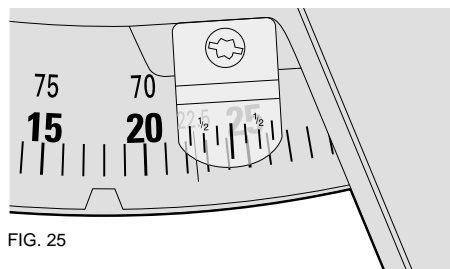

FIG. 25
3. To set the additional 1/4 degree, move the first mark on the right to the right until the 1/4 degree vernier mark aligns with the CLOSEST degree mark on the miter scale. In our example, the closest degree mark on the miter scale happens to be 25 degrees. Figure 25 shows a setting of 24-1/4 degrees right miter.